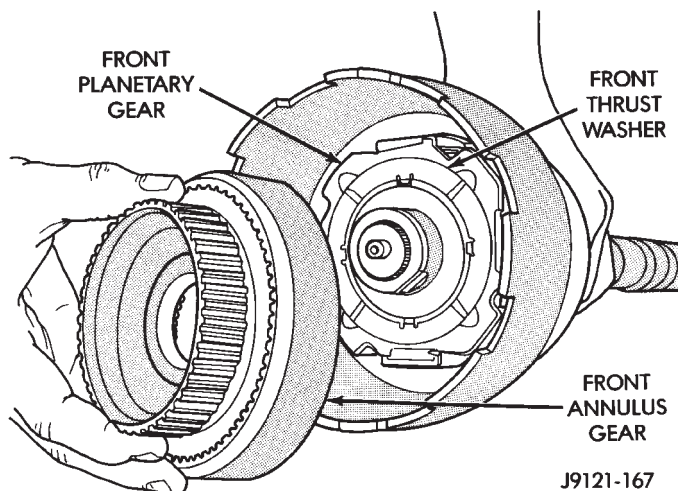

Fig. 176 Installing Front Planetary And Annulus Gears
(14) Install front planetary gear on output shaft and in driving shell (Fig. 176).
(15) Install front thrust washer on front planetary gear. Use enough petroleum jelly to hold washer in place and be sure all four washer tabs are seated.
(16) Assemble front annulus gear and support, if necessary. Be sure support snap ring is seated.
(17) Install front annulus on front planetary (Fig. 176).